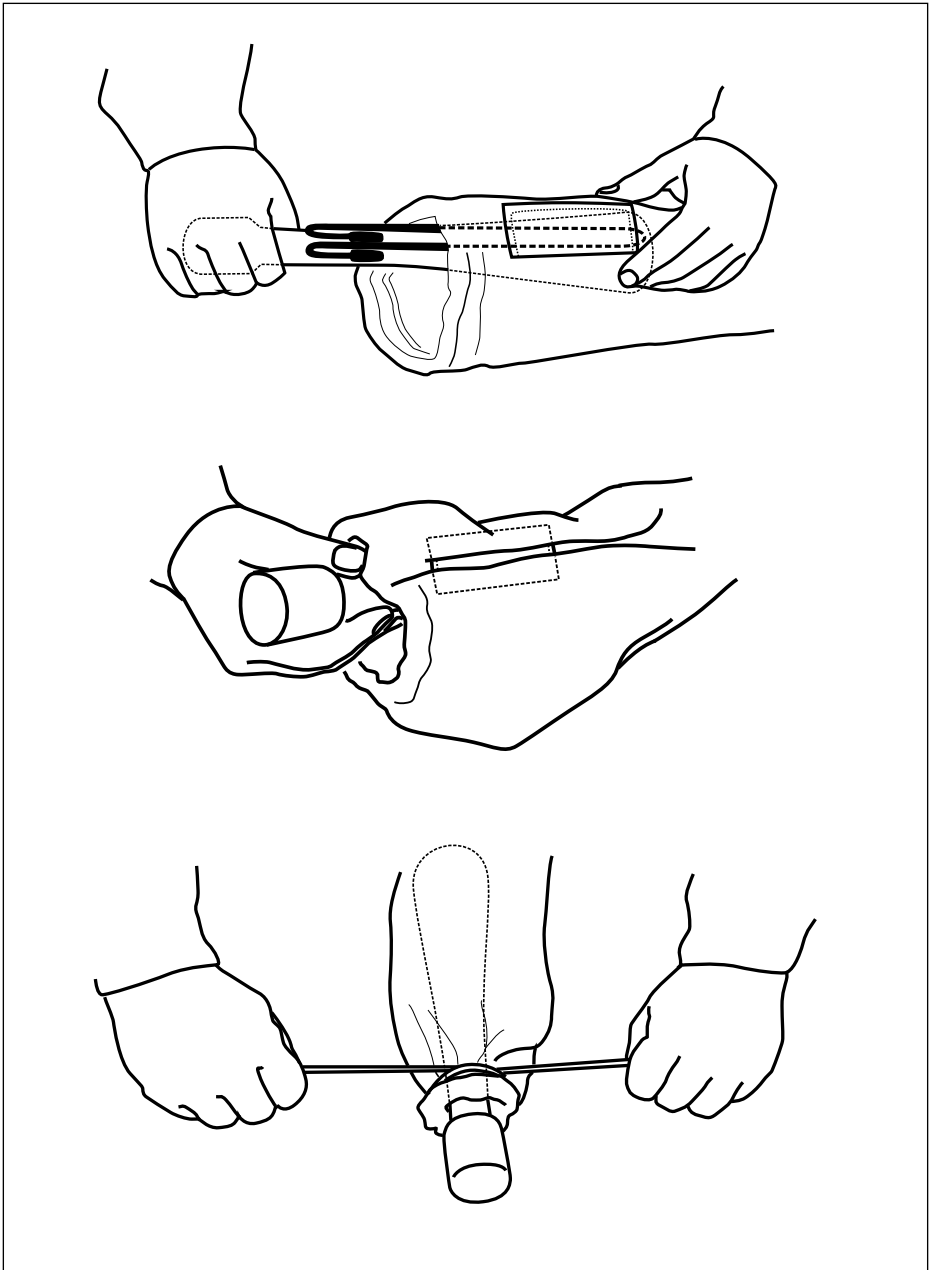

Fig. 4.1.1 Dust bag
5.1 **Dust bag.** Empty the dust bag regularly. The dust bag is held in place by an elastic strap and by a wire-reinforced split seam on the top of the bag. The seam tucks into a metal clip on the exhaust tube. To remove the dust bag, unsnap the elastic strap, grab the end of the bag and pull it toward the main body until the place where the split seam joins together clears the end of the metal clip. The bag can be removed and shaken out. To reattach the bag (see fig. 4.1.1.), shove the exhaust tube into the bag until the end of the metal clip is beyond the place where the seam joins. Tuck both of the reinforcing wires into the clip and pull the bag away from the main body, shoving the reinforcing wires into the clip as you pull. Don't forget to resnap the elastic.